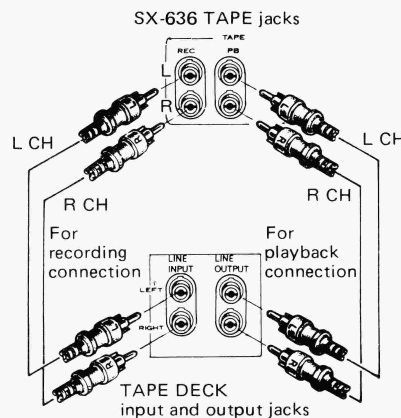

Fig. 8 — Connecting the SX-636 to tape deck.
- Connect the Receiver TAPE 1 REC output jacks to the tape deck recording input jacks (LINE INPUT), as shown in Fig. 8. The upper jack is for the left (L) channel and the lower for the right (R) channel.